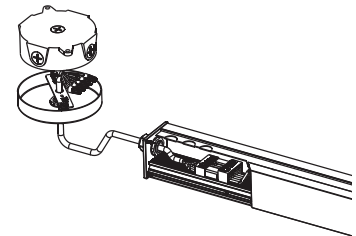

figure 8-3
- d. Connect the loose female connector provided to the male connector, and feed the wires of that connector out through the cable gland. Replace the endcap. **Fig 8-3.**
- e. Feed the wires from the cable gland into the cable gland of the ceiling plate. Make the wiring connections in the junction box and mount the cover plate to the ceiling **Fig 8-3.**